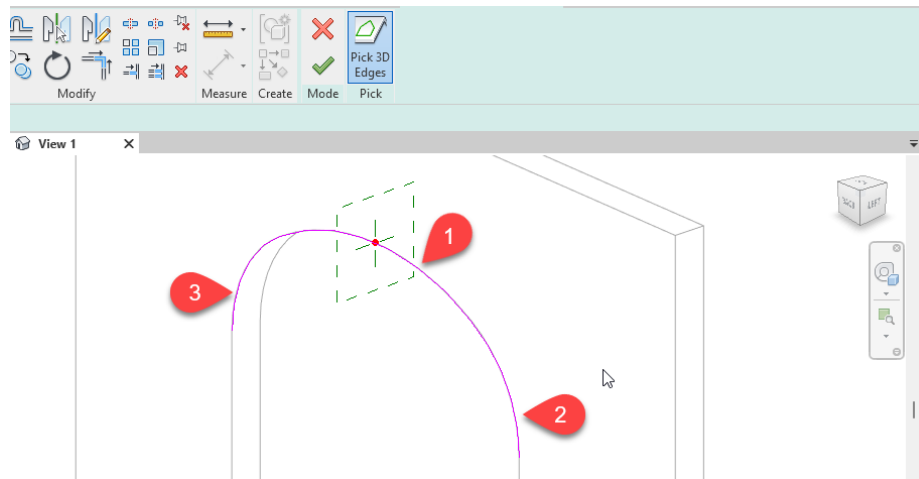

Figure 62—Using pick path, click the edges of the arch
- ⇒ Tile the windows (WT).
- ⇒ Click the Pick Path button, and then click the three arcs edges of the wall opening starting with the middle one (see Figure 62).